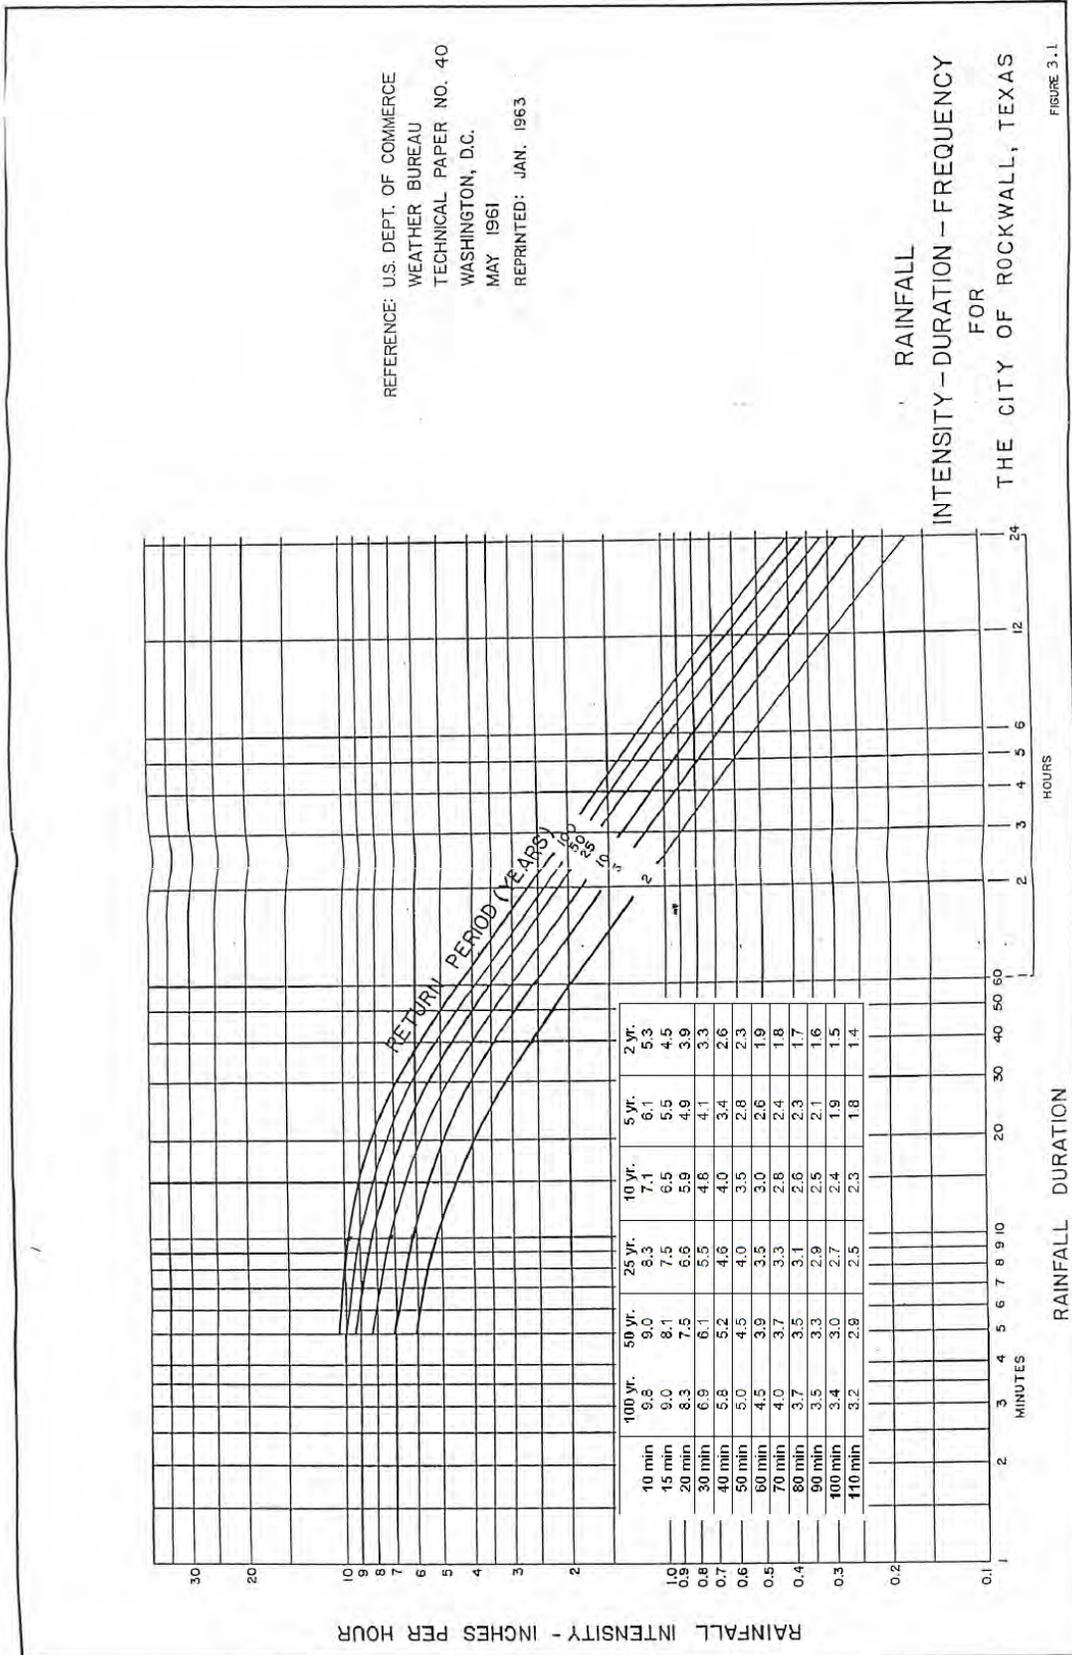

Figure 3.1: IDF Curve
I = The average intensity of rainfall, for a period equal to the time of flow from the farthest point of the drainage area to the point of design and is obtained from Figure 3.1. (inches/hr)
The Rainfall intensity shall be taken from Figure 3.1 below for the minimum inlet time above.
For the Rational Method the relationship between rainfall intensity, duration and frequency is set forth in Figure 3.1. These curves have been developed using Technical Paper No. 40, "Rainfall Frequency Atlas of the United States" by the U.S. Weather Bureau.
Column (7)	Using the time of concentration and design storm frequency, the rainfall intensity is taken from Figure 3.1